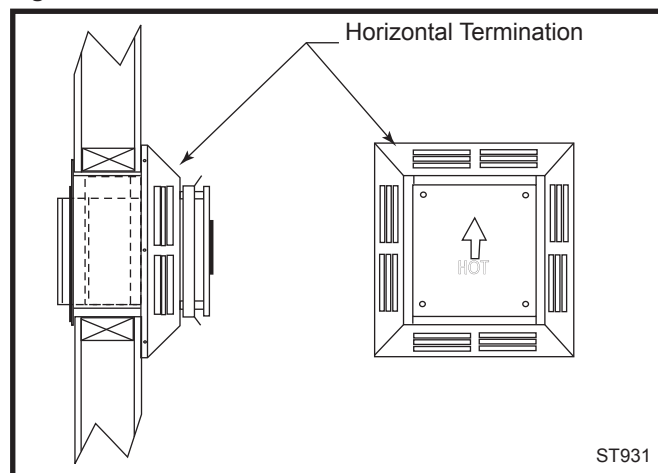

Fig. 42 Horizontal termination.
6. Install the horizontal termination to the exterior wall using four (4) all purpose screws through the holes located at each corner of the termination. Make sure the arrow (embossed on the front of the termination) is pointing up. (Fig. 42) If the house has vinyl siding,